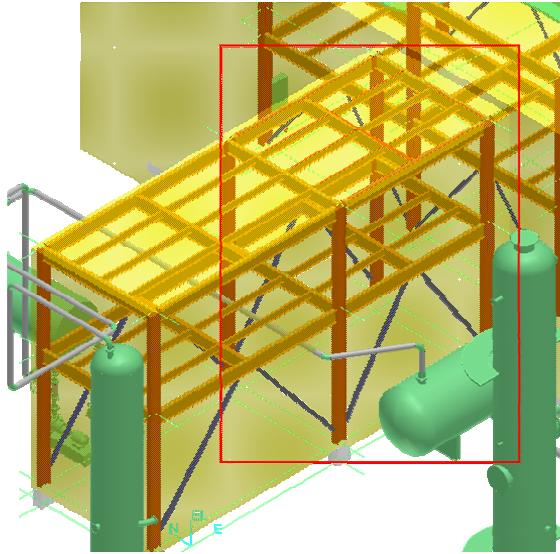

Figure 32: Final Output – After Placing the Volume
6. Click the graphic view and the volume is created, as shown in Figure 32.